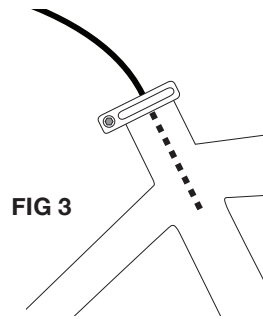

FIG 3
5. Put a piece of tape on the housing to mark the spot where it sticks out of the seat tube. (FIG 3)